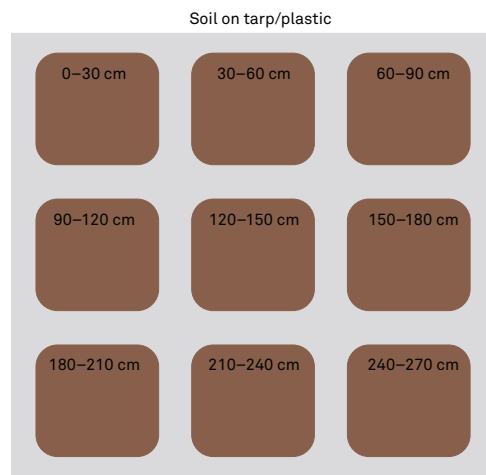

Figure 3 Example of a labeled tarp with piles of soil
3. **[REQUIRED]** Lay out a large tarp or piece of plastic (included; Figure 3). Soil removed from the borehole should be placed on the tarp or plastic in separate piles in the order removed.
NOTE: METER recommends labeling the tarp as illustrated below for correct backfilling (Figure 3).
5. Place the removed soil on the tarp in the order of soil horizons (i.e., deepest soil removed should be replaced first) for correct backfilling (Figure 3).